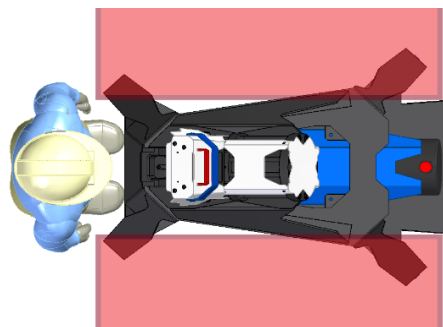

Figure 1 Danger area marked in red
- **You must prevent persons from entering the danger zone (Figure 1).**